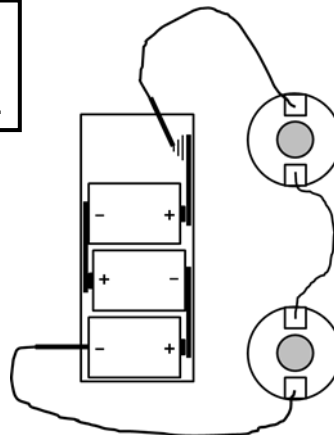
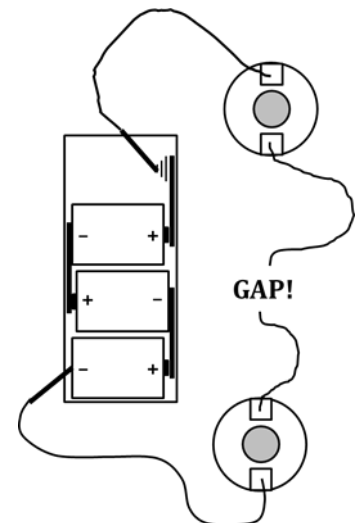

Fig. 1.6a
Fig. 1.7a
Figures 1.6a and 1.6b show the circuits you constructed in Section 1.2. Draw arrows next to each of the three wires to properly indicate the direction of conventional charge flow through the circuit.
1. Modify the circuit of Fig. 1.6a by adding a fourth connecting wire, as shown in Fig. 1.7a. This figure is called the testing circuit. You will be inserting various materials into the GAP! in the two wires between the bulbs and testing whether each material is a conductor or an insulator. A conductor will ALLOW the bulbs of the test circuit to light; an insulator will PREVENT the bulbs from lighting.
2. Using the testing circuit of Fig. 1.7a, complete Table 1.7b by circling your choices. In the two rows at the bottom of the table, find two other objects (your choice!) and test them for conductivity, too.